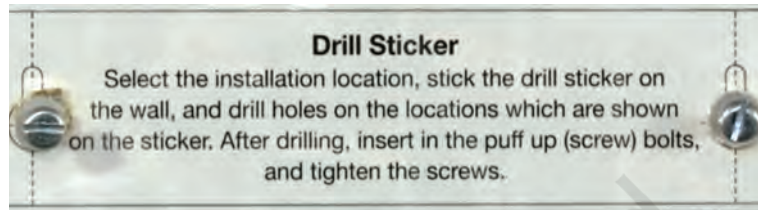

Fig. 4.85
8. Insert two self-taping screws in both the holes using screwdriver as shown in Fig. 4.85. Do not use hammer.